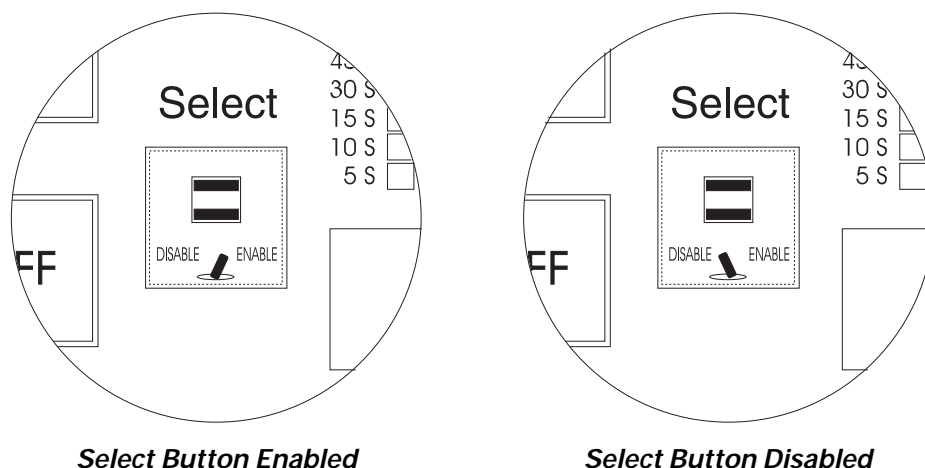

Figure 8 - Select Enable/Disable Switch
- b) Operate lighting presets. Following the instructions in the User Guide save and activate presets. If presets are not able to be saved, remove the select button cap and verify that the switch behind it is in the "enable" position. Setting this switch in the disable position prevents presets from being saved, and the dimmer curves and high and low end trims from being set. See figure 8 below.